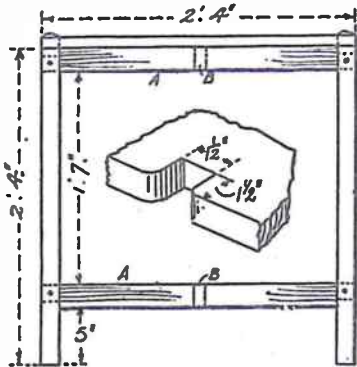
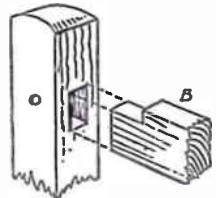
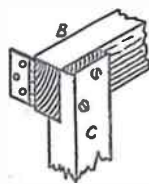
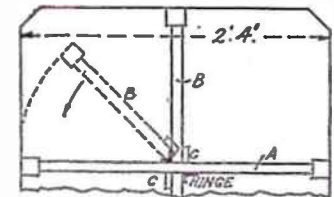

Fig. 2
Fig. 4
Fig. 6
Fig. 7
A half-plan of the table top is given in Fig. 7, and note should be made from this and the inset enlargement in Fig. 2, how notches are cut on the four edges to fit over the extended top of the legs. The top of each leg should be shaped as shown in Fig. 4. The table top may be made up in four widths of ¾ in. wood, 7 ins. wide, grooved and tongued together, and having, perhaps, narrow battens screwed on underneath to stiffen the joints. Cut the corners off as shown and glasspaper down all sharp edges and corners before applying the finish to the wood of stain and varnish or a coat or two of paint. (S.W.C.)
uprights (C) are notched into rails (B) and screwed. Fig. 6 distinctly shows this, and also how the hinges are fixed. The plan, Fig. 7, shows how the folding legs are arranged.